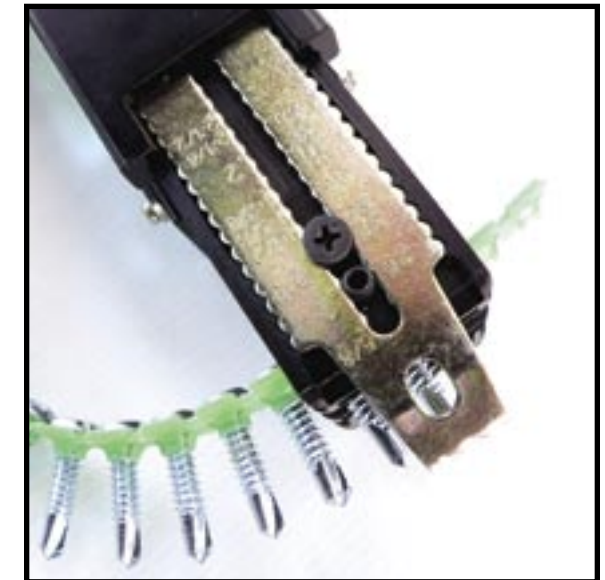

FIGURE 2.
- Tighten the nosepiece screw securely. See Figure 2.